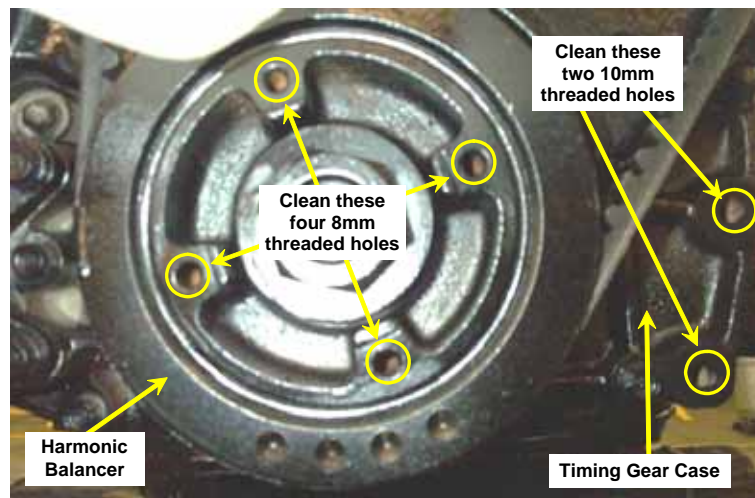

Figure 6 Threaded Holes to be Cleaned
- (1) Working from below the engine, use an M8 x 1.25 mm pitch finishing tap (Table 3, Item 1) to clean the four threaded holes on the harmonic balancer (see Figure 6). It may be necessary to manually rotate the engine to gain easier access to the threaded holes on the harmonic balancer.
- (2) Fit the twin grooved crankshaft drive pulley (Table 1, Item 18) to the harmonic balancer using four M8 x 20 mm bolts (Table 1, Item 19) and four 8 mm lock washers (Table 1, Item 20).
- (3) Using an M10 x 1.25 mm pitch finishing tap (Table 3, Item 2), clean the two threaded holes on the left-hand front face of the timing gear case (see Figure 6).